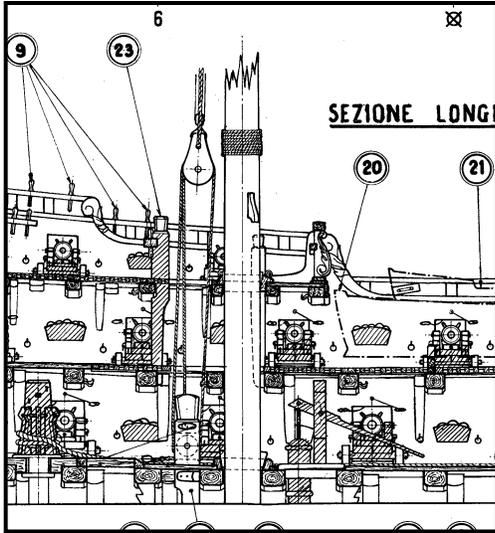

Figure 5: Section From Plan Sheet 2
1. The gun carriages supplied do not really match the dimensions or shape shown in the plans and Fig. 5 opposite illustrates the much simplified structure (no quoin, no tapering, almost no rigging, etc) – and no paint detailing! Whilst labour intensive and time consuming, there is *much* you can do to alter these gun carriages. I chose to include quite a few details outside the scope of the kit but certainly within the plan sheet description. As an example, a large number of additional eye pins would be needed here !